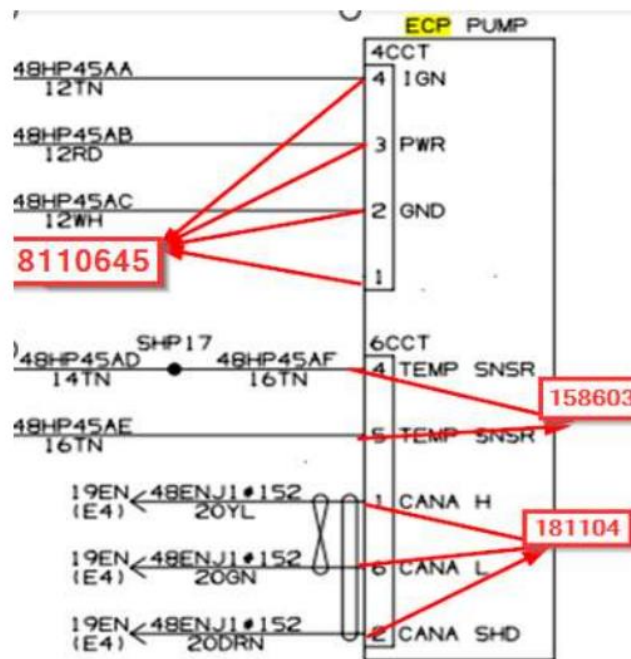

Figure 3: ECP Pump Connector Pins Part Numbers
5. Disconnect the two connectors from the ECP coolant pump to the bus side harness. Inspect the connector pins for corrosion. If corrosion is found replace the connector pins as required, and follow the Figure 3 for the Pins P/Ns. Please use the Inspection sheet in Appendix A to record any buses that showed signs of corrosion in the connectors. (NOTE: Please reuse the pin locks)